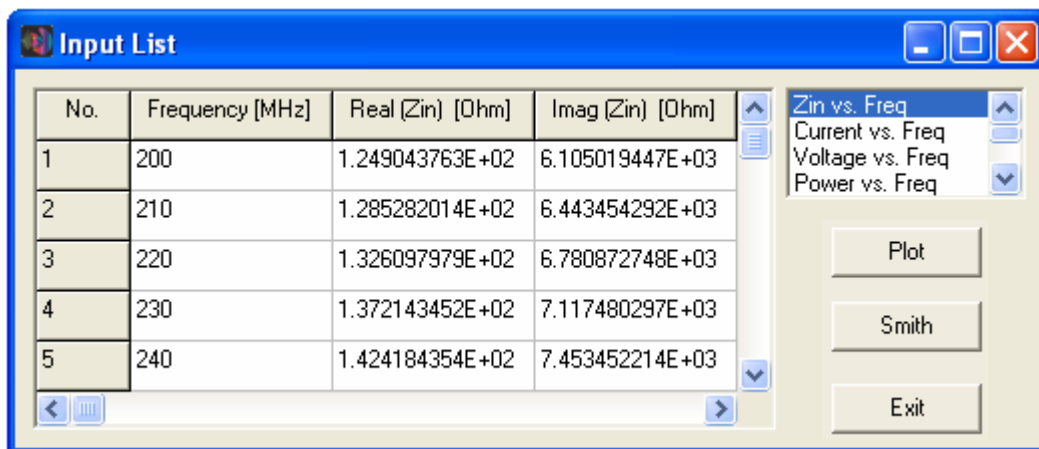

Fig. 13.7: The Input List dialog box.
If the selected segment has a source on it, the Input List button is enabled. Pressing this button displays the Input List dialog box, Fig. 13.7. This dialog box shows the list of input impedances, admittances, currents, voltages and powers in the selected segment versus frequency. Clicking on an item in the list and pressing the Plot button will plot the chosen item as a function of frequency. The input impedance can be shown in a Smith chart by pressing the Smith button.
4. Press the Input List button to display the Input List dialog box, Fig. 13.7. This dialog box shows the list of input impedances, admittances, currents, voltages, powers, reflection coefficient, VSWR, return and transmission losses in the selected segment versus frequency. Selecting an item from the list and pressing the Plot button will plot the selected item as a function of frequency. The reference impedance for reflection and VSWR calculations is defined in the Options page of the Configuration dialog box. Besides, the input impedance can be plotted in a Smith chart by pressing the Smith button.
The input impedance as a function of frequency can be plotted in a Smith chart, which is accessible from the Input List dialog box, Fig. 13.7. By pressing the Smith button provided in this dialog box, the AN-Smith® program will be executed to plot the input impedance in a Smith chart. Therefore, follow the procedure described in the previous section for listing the input impedances versus frequency, and then press the Smith button in the List dialog box.